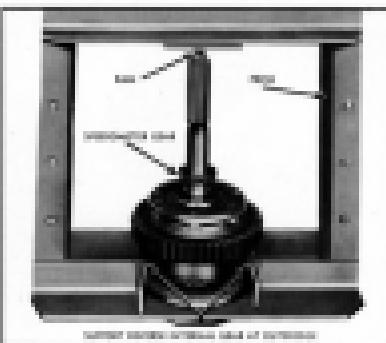

Fig. 408. Removing Reverse Internal and Speedometer Gear.
5. Place reverse assembly in a press, supporting assembly at outer edge of reverse internal gear. (Fig. 408)